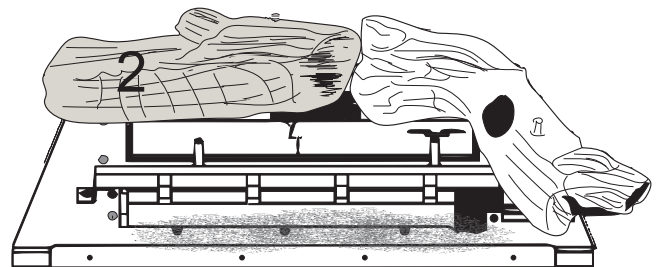

Figure 3 - Log #2 Placement
3. Hold log #2 with the flat surface away from you. Place log #2 toward the back to the left by positioning the pin locator hole on the bottom of the log over the pin on the left-hand side and push back against the rear bend on the sheet metal of the burner assembly. See Figure 3.